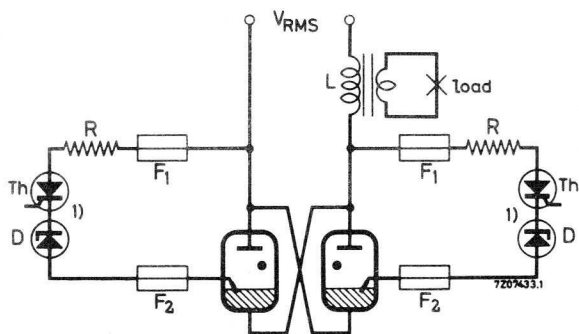
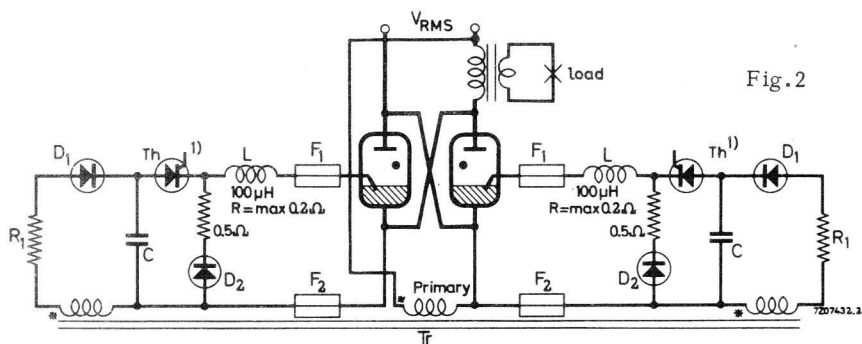

Fig. 1
Fig. 2
B. Separate excitation used in all other applications. Typical examples are given in fig.1 (self excitation) and fig.2 (separate excitation).
A. Anode excitation (fig. 1)
B. Separate excitation (fig.2)